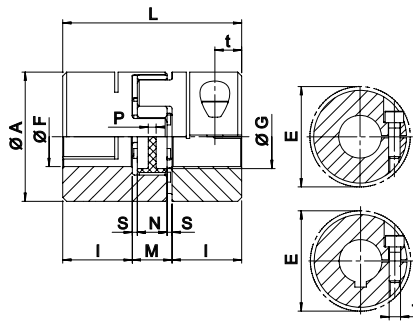

Fig. 2
- Seat of the keyway and setscrew (Fig. 2)